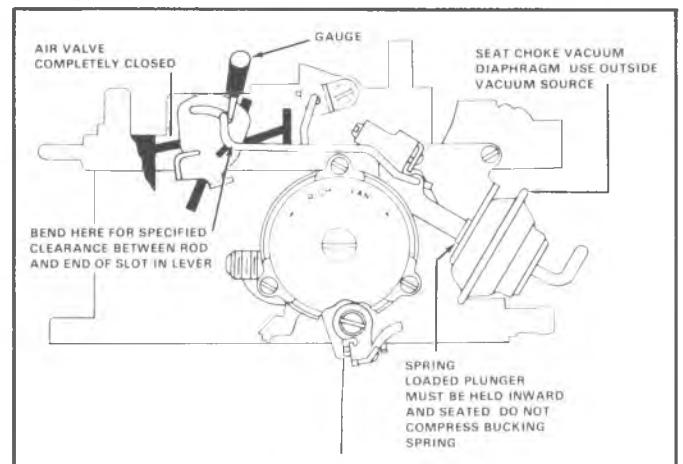

Fig. 48—Air Valve Dashpot Adjustment
**AIR VALVE DASHPOT ADJUSTMENT (Fig. 48)**